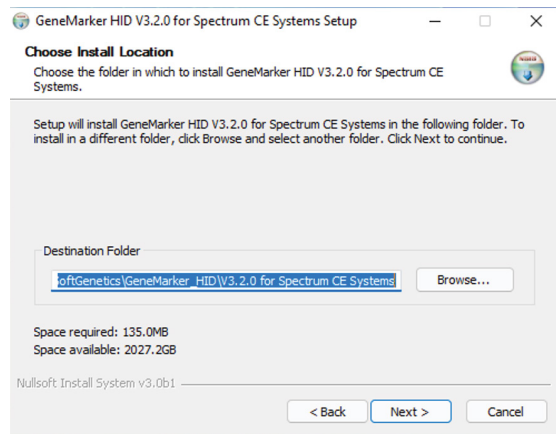

Figure 3. 'Choose Install Location' window.
6. Select the Destination Folder for the software in the 'Choose Install Location' window (Figure 3), then select **Next**.